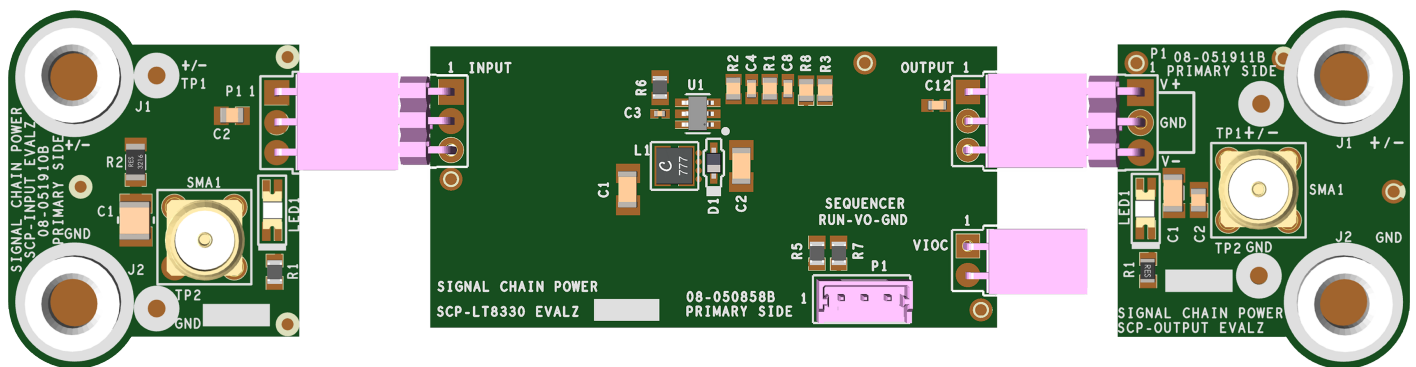

Figure 2. Proper Measurement Equipment Setup (Use SMA connectors for Measuring Input or Output Ripple)
2. Connect the SCP-INPUT-EVALZ and SCP-OUTPUT-EVALZ boards to the SCP-LT8330-EVALZ (refer to Figure 2) and connect the input board to a voltage source, V_{SOURCE} . Connect the output board to a voltmeter or dynamic load. Slowly raise the input voltage until the SCP-LT8330-EVALZ powers up into regulation and sweep V_{SOURCE} through the desired range of operation.